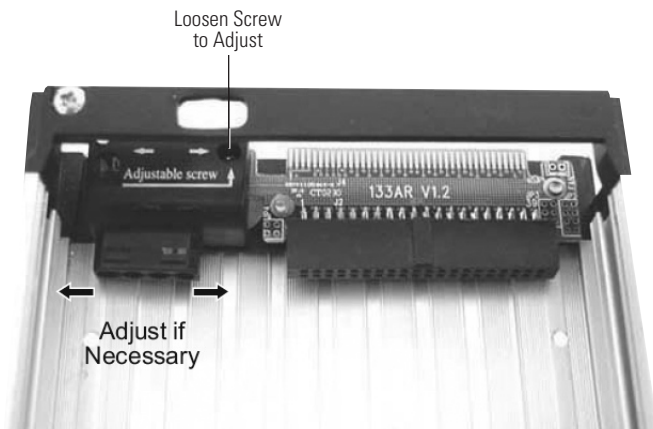

Figure 4: Adjusting DC Power Connector
2. Carefully insert drive (not included) into the carrier. Slide the drive towards the rear of the carrier. If necessary, loosen the adjustment screw and adjust the carrier DC power connector (Figure 4) so that the drive connectors can mate with the carrier connectors. Once the drive and carrier are mated, tighten the adjustment screw to secure power connector into place.